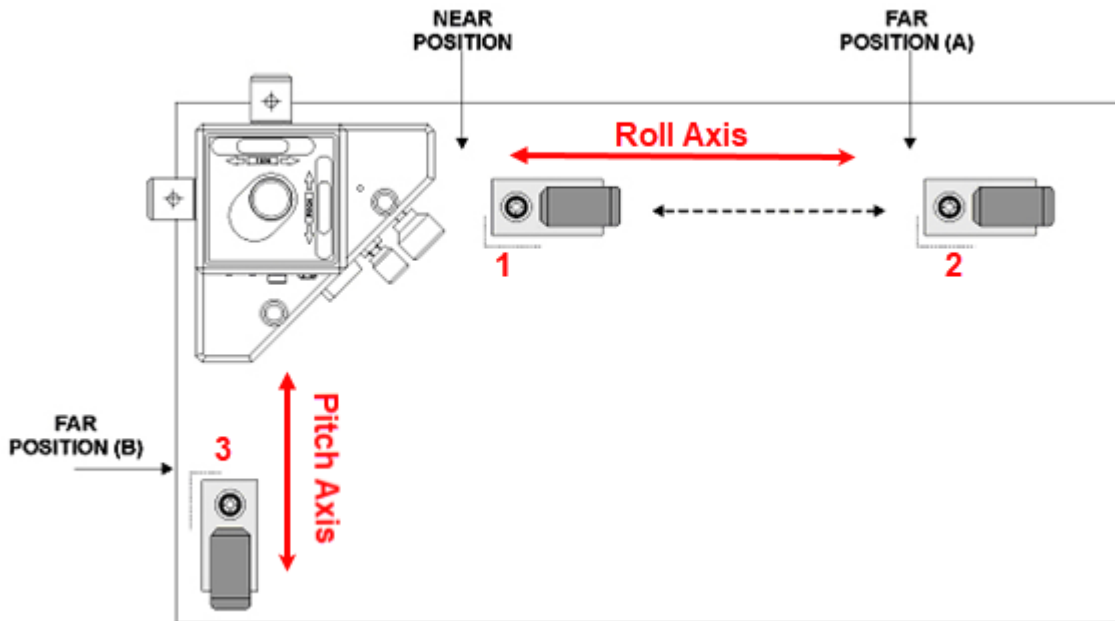

Figure 18 – 3-Point Buck-In
Be sure to use only *Pitch Axis* adjustment knobs that face the target when tilting the laser beam (in the setup displayed in Figure 18, this would be the PITCH adjustment).
1. **Zero all three targets on the near footprint (1)– see Figure 18.**